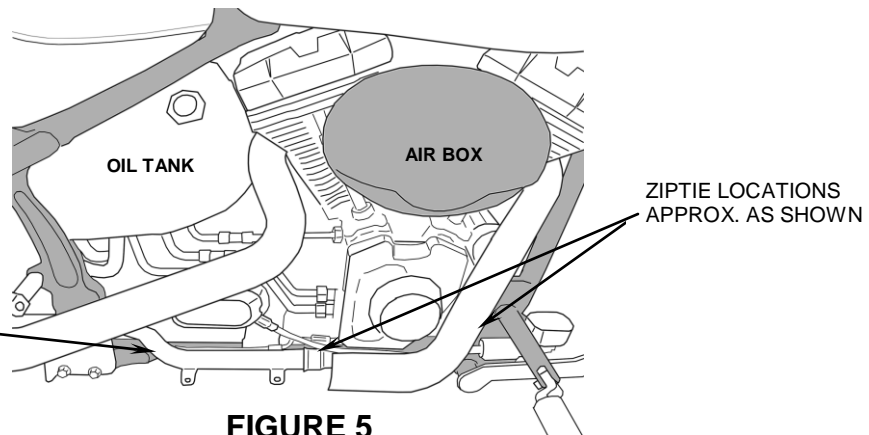

FIGURE 5
11. Using the supplied zip ties secure the front O₂ wiring harness to the stock wiring harness and frame rail in (3) locations. See Figure 5.